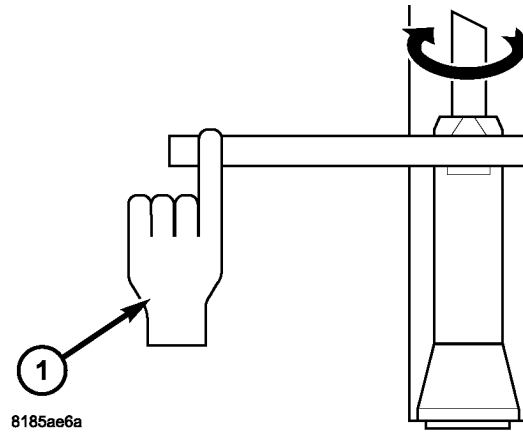

Fig. 1 TIGHTENING THE ANTENNA MAST
1. Install antenna mast to antenna base. Finger tighten the antenna mast until it is fully seated on antenna base; no gap between the mast and base. Using a torque wrench, tighten the antenna mast to 3.4 - 3.6 N·m (30 - 32 in. lbs.) (Fig. 1).